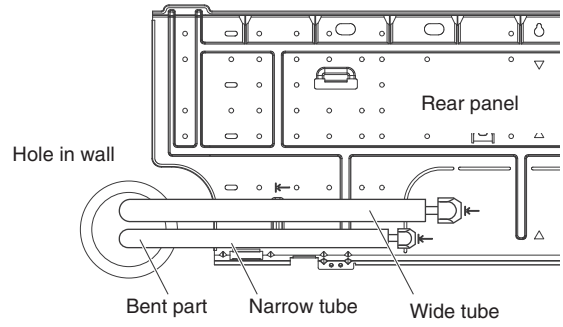

Fig. 3-28
- (1) Lead the tubing and drain hose through the wall, allowing sufficient length for connection. Then bend the tubing using a tube bender to make the attachment. (Fig. 3-28)
- (2) Switch the drain hose and drain cap.